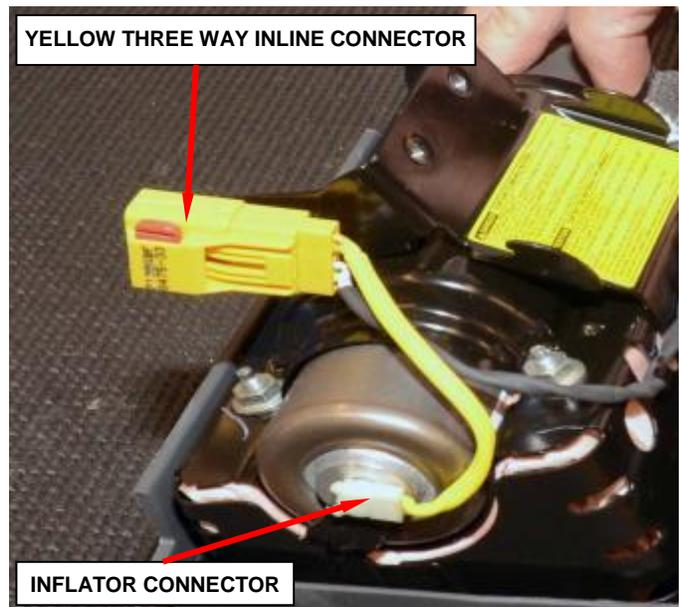

Figure 54 – Inflator Connectors
- c. Disconnect the single yellow wire inflator connector from the end of the inflator using pliers (Figure 54).
- d. Remove the yellow three way inline connector from the housing bracket (Figure 54).
- j. Install the yellow three way inline connector to the housing bracket (Figure 54).
- k. Connect the single yellow wire inflator connector to the end of the inflator after removing the protective tape from the end of the inflator (Figure 54).